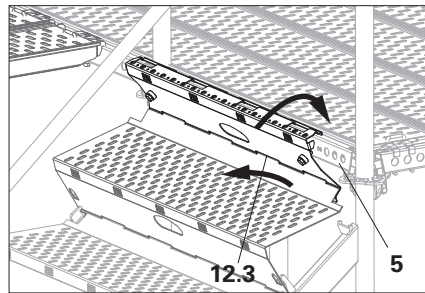

Fig. A2.11c
3. Fold the End Step UAE upwards (13). The teeth (12.3) of the preceding step slip through the slots (13.2) of the end step and connect both steps. (Fig. A2.11c)